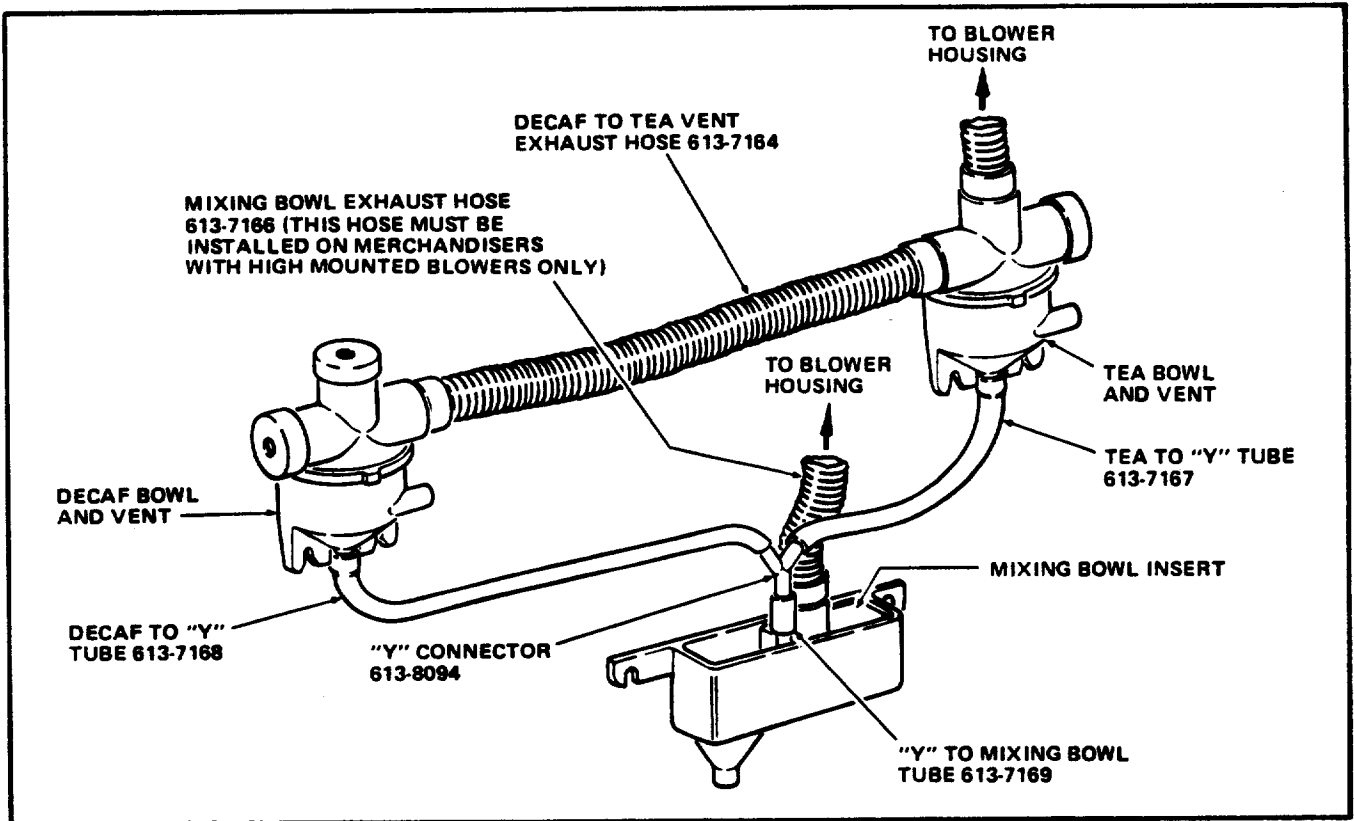

FIGURE 5
39. Use the Decaf Bowl-to-"Y" Tube, part number 613-7168, to connect the Decaf Bowl outlet to the "Y" Connector, part number 613-8094. Both parts included in kit. See Figure 5.
41. Use the Tea Bowl-to-"Y" Tube included in the kit, part number 613-7167, to connect the Tea Bowl outlet to the "Y" Connector. See Figure 5.
42. Use the "Y"-to-Mixing Bowl Tube included in kit, part number 613-7169, to connect the "Y" Connector to the inlet of the Mixing Bowl Insert. See Figure 5.
44. Remove the Vinyl Cap from the Exhaust Blower Housing and then use the Mixing Bowl Exhaust Hose included in the kit, part number 613-7166, to connect the Exhaust Blower Housing directly to the exhaust port of the Mixing Bowl Insert. See Figure 5.
45. Use the Decaf Vent-to-Tea Vent Exhaust Hose included in the kit, part number 613-7164, to connect the two vents as shown in Figure 5.
46. Remove the Vinyl Cap from the left port of the Tea Vent and use the Decaf Vent-to-Tea Vent Exhaust Hose included in kit, part number 613-7164, to connect the two vents as shown in Figure 5.